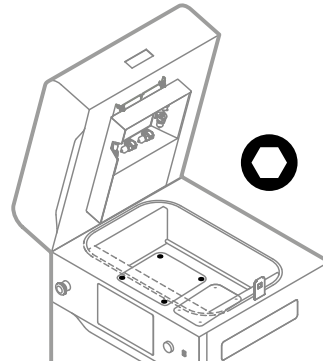

Fig. 12.41 Tighten the four screws securing the Feed Bed cover.
23. Using a 2,5 mm allen key, tighten the four screws securing the Feed Bed cover (fig. 12.41).